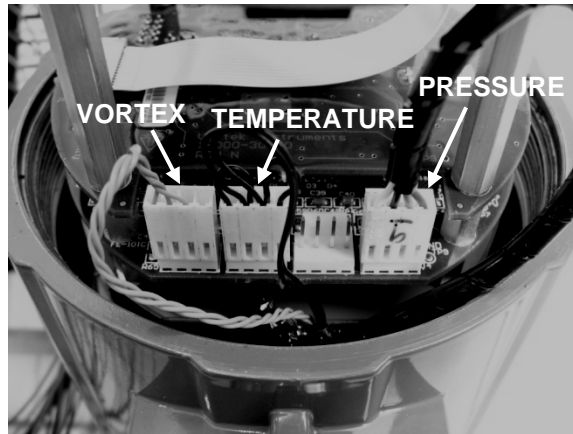

Figure 5-1. Electronics Stack Sensor Connections
3. Using ESD precautions and hazardous area precautions, remove the electronics enclosure window cover. Disconnect the vortex sensor from the electronics stack or remote feed through board. Refer to Figure 5-1 or 5-2. Measure the resistance from each outside pin to the meter ground - each should be open. Measure the resistance from the center pin to the meter ground - this should be grounded to the meter.
3. Using ESD precautions and hazardous area precautions, remove the electronics enclosure window cover. Disconnect the temperature sensor from the electronics stack or the remote feed through board. Refer to Figure 5-1 or 5-2. Measure the resistance across the outside pins of the temperature sensor connector. It should read approximately 1080 ohms at room temperature (higher resistance at higher temperatures).
3. Locate the sensor harnesses which come up from the neck of the flow meter and attaches to the circuit boards. Make note of the location of each sensor connection. Refer to figures 5-1 and 5-2. The vortex sensor connection is on the left, the temperature sensor connection (if present) is second from the left, and the pressure sensor connection (if present) is the right most connector. Use small pliers to pull the sensor wiring connectors off of the circuit boards.